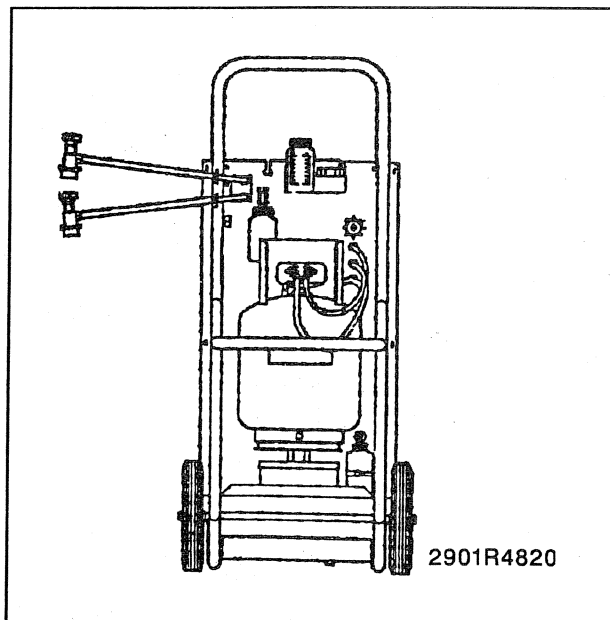

Figure 16—Complete Operational Set-Up
1. Connect high side (Red) and low side (Blue) hoses to the ACR4 unit (figure 16). Make sure to route hoses through hose reel bracket grommets.